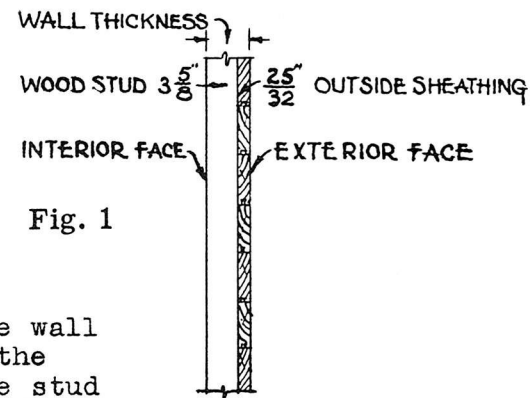

Fig. 1
2. The wood sheathing on the exterior face of the wall in Fig. 1, is to be covered with wood shingles which will add $\frac{5}{8}$ " to the thickness. What will be the thickness of the wall, after it is shingled?
3. What will be the total thickness of the wall in Fig. 1, if after it is shingled on the exterior face, the interior face of the stud is covered with wood lath and plaster $\frac{3}{4}$ " thick?